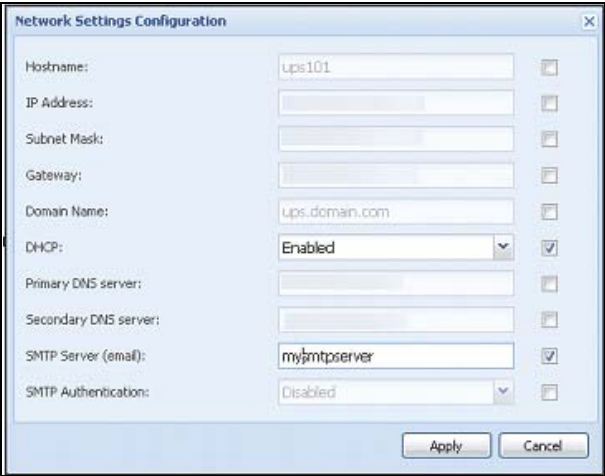

Figure 85. Network Section
- 5. In the Network Settings Configuration dialog box, check the parameters you want to change and type the new values (see Figure 85).